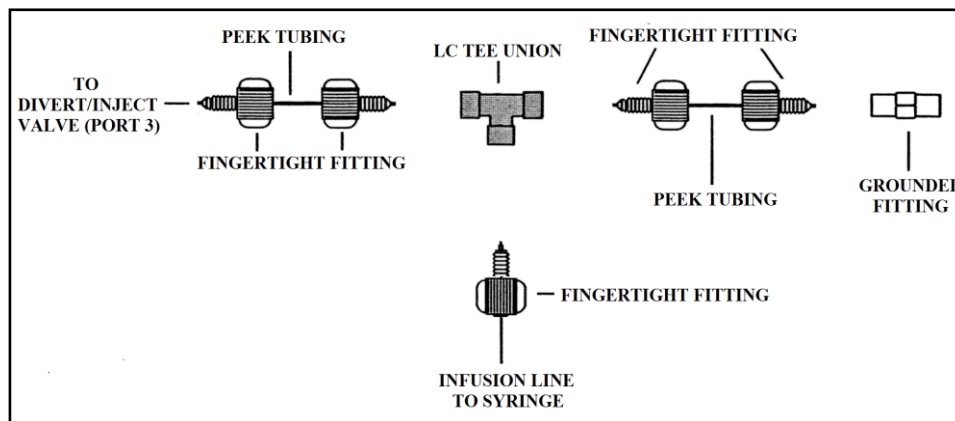

Figure 15. ESI/MS Plumbing connections for the LC Tee union.
8.2.3.2.1. To set the connections from the grounded fitting to the LC Tee union, connect an appropriate length of PEEK tubing with a Fingertight fitting to the grounded fitting (See Figure 15). Connect the other end of PEEK tubing with a Fingertight fitting to the free end of the LC Tee union.
8.2.3.2.2. Set up the plumbing connections for the divert/inject valve and the LC Tee union. See Figure 15. Connect an appropriate length of PEEK tubing with Fingertight fitting to port 3 of the divert/inject valve. Connect the other end of the PEEK tubing with Fingertight fitting to the free end of the LC Tee union.
8.2.3.2.3.7. Connect the PEEK tubing with Fingertight fitting found at the end of the sample infusion line to the remaining free end of the LC Tee union. See Figure 15.